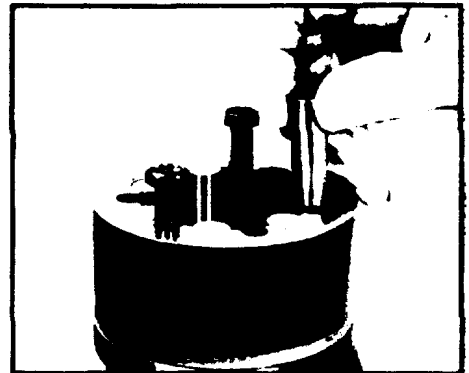

Figure 60
4. Assemble the rotor (6A) into the stator (6B) with six vanes (6C) or as many vanes that will readily fit into the stator vane pockets. SEE FIGURE 60 and 61.